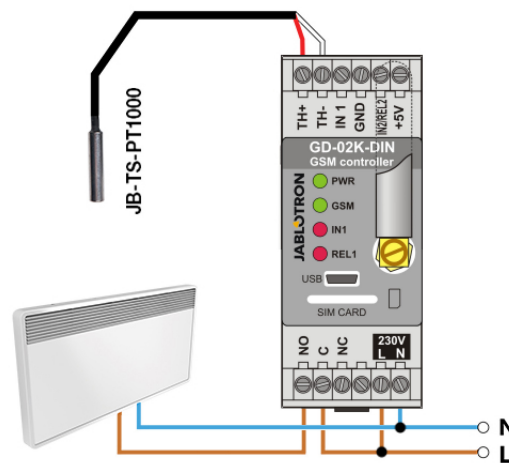

Figure 5: Temperature monitoring and heater control.
- A controlled device has to be connected via the REL1 power output contacts in this mode. (see Figure 5).